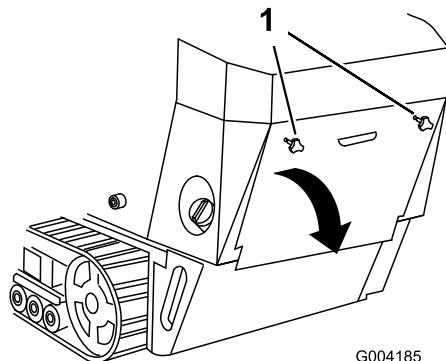

Figure 29
- Unscrew the 2 hand knobs securing the rear access cover to the machine (Figure 29).
2. Tilt the rear access cover down and remove to access the internal components (Figure 29).